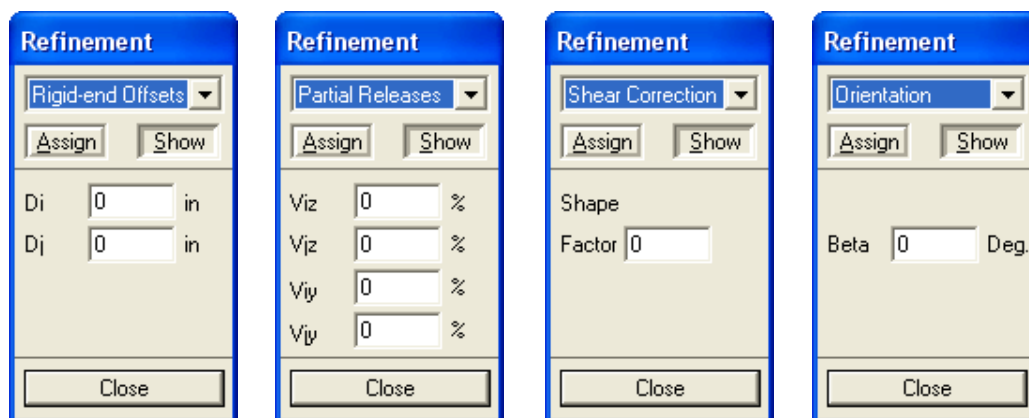

Figure 5-19 Refinement dialog box
- From the **Assign** menu, choose **Refinement**. The modeless dialog box of Figure 5-19 appears. This box has two modes, ASSIGN and SHOW. To end refinement assignment, choose the CLOSE button.